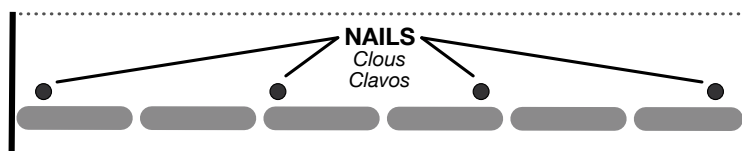

Figure 3 - Smart Start™ Fastening Pattern
Nailing Pattern: Use four (4) fasteners for each starter shingle. Install with fasteners placed 1 1/2" - 3" (38-76 mm) up from the eave, one fastener 1" (25 mm) from each end of the starter and the remaining two (2) evenly spaced on the same line as the end fasteners. Do not place fasteners in the seal-down strip. (See Figure 3)